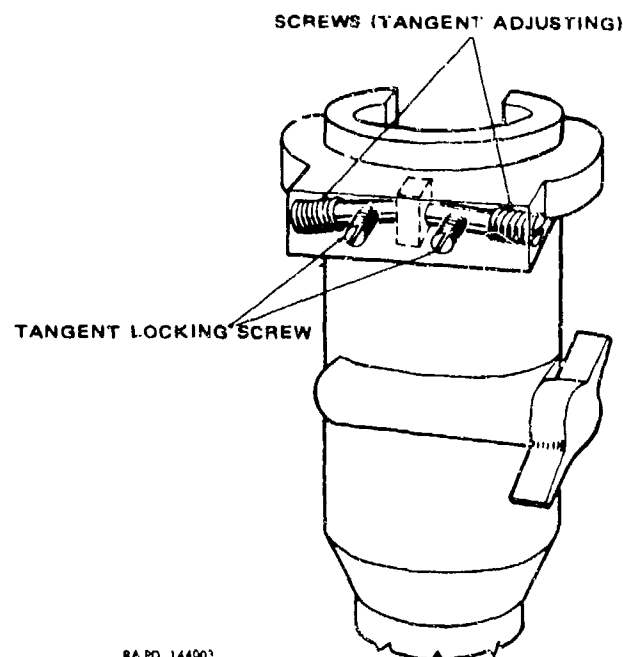

Figure 5-31. Tangent adjusting screws in the telescope socket of the telescope mount.
c. For boresighting with the panoramic telescope M12A7Q, all indexes, including the left index, must be at zero. Any adjustment to make the line of sight parallel to the tube must be made with the tangent screws on the telescope mount (figs 5-30 and fig 5-31).
(6) *Tangent screws.* The tangent screws (fig 5-31) are used to center the panoramic telescope in its mount, to eliminate any looseness between the telescope and the mount, and to adjust the line of sight of the vertical reticle of the panoramic telescope.